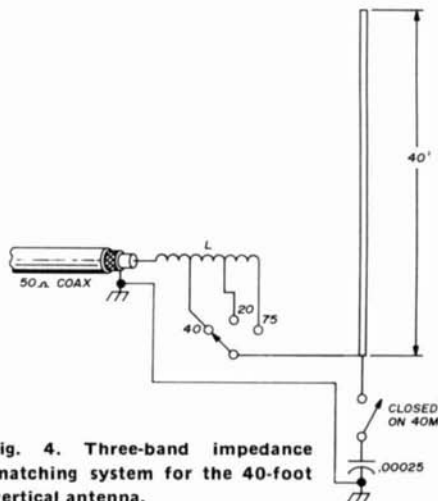

fig. 4. Three-band impedance matching system for the 40-foot vertical antenna.
fig. 3. Graphical solution for an impedance matching network to the 40-foot vertical on 14.30 MHz. This network can be combined with the network in fig. 2 to provide the multiband system shown in fig. 4.
1.0:1 on the first trial. The swr on 20 meters was up near 1.5:1 and minimum was with the little 11-pF variable wide open. Removal of the variable capacitor and moving the inductor tap one-half turn yielded an swr of 1.0:1. Apparently, the capacitance of the coil to the aluminum box housing the network was very close to the required 11-pF. The final circuit of the network is shown in fig. 4.